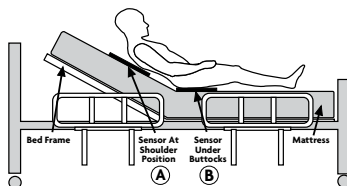

Fig. 28
3. Choose a position for sensor pad (fig. 28):
- (A) Centered at patient's shoulder blades; or
- (B) Centered under patient's buttocks.
For bed use, sensor pad should be placed at shoulder blade level so alarm will activate if patient sits up, tries to climb over side rails, or scoots to bottom of bed (see fig. 28, page 22).